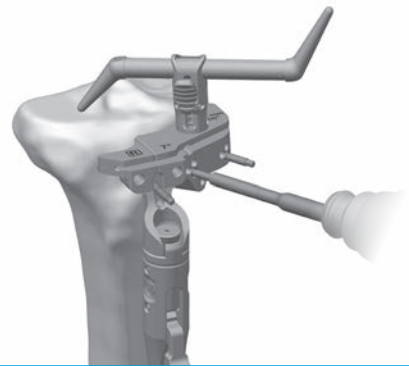

Fig. 27
- Insert a second trocar tipped pin through the other "0" hole in the cut guide with the Pin/Screw Inserter (Fig. 27). Remove the stylus by pushing the lever on the side of the stylus and remove.